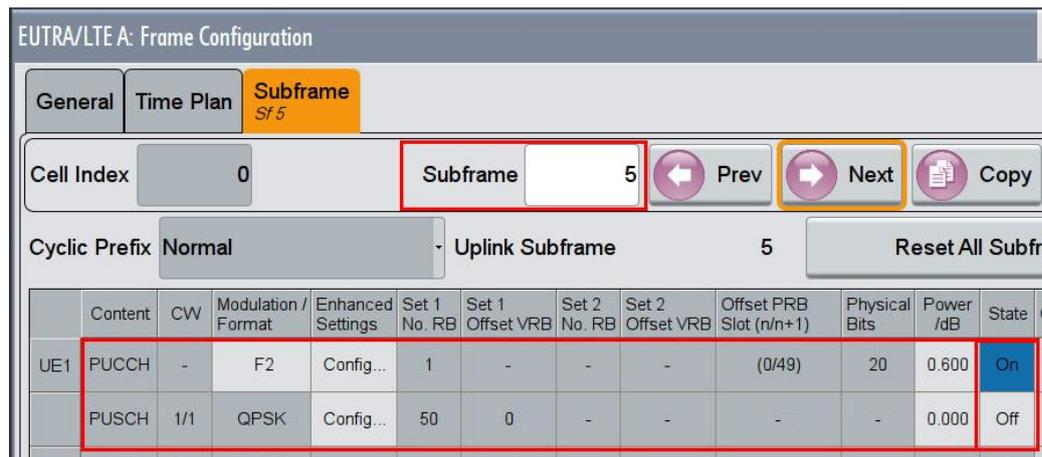

Fig. 3-74: PUCCH is On in subframe #5, PUSCH is Off
- Switch **Off** the PUSCH in subframes # 1,2,3,4,5,6,7. Switch **On** the PUCCH in subframe #5. (Fig. 3-74)